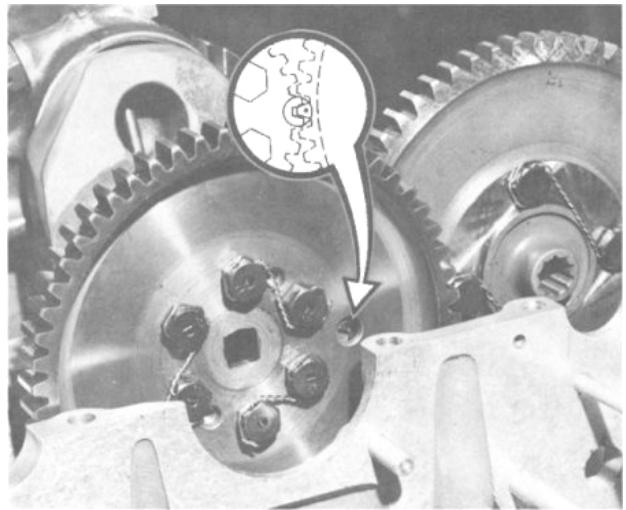

FIGURE 8-3. ALIGNMENT OF TIMING MARKS.
d. After crankshaft has been properly placed in crankcase, and governor driven gear has been installed, lay camshaft assembly in. place meshing spur gear teeth of the cam gear with those of the crankshaft small gear so that the timing marked tooth of the cam gear is at the center of the 3/8 inch observation hole in the web of the crankshaft large gear. See Figure 8-3.